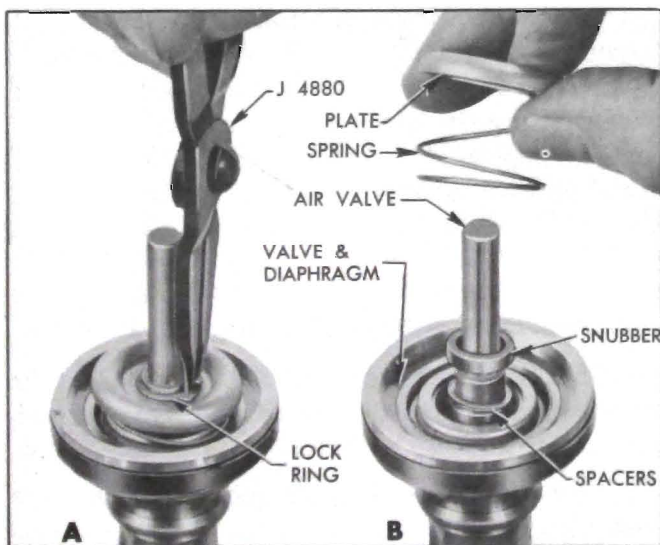

Figure 9-21—Removing Control Valve from Air Valve
valve and diaphragm assembly from air valve. See figure 9-21.
11. Place spacers selected in Step 9 on shoulder of air valve. Place rubber snubber on top of spacers with steel back against spacers, and install floating control valve and diaphragm assembly with rubber valve seat against the seat on air valve. Place valve diaphragm spring over the spring retainer, install valve reaction plate with *concave side of rim* against the spring, then depress these parts and install lock ring. See figure 9-21.